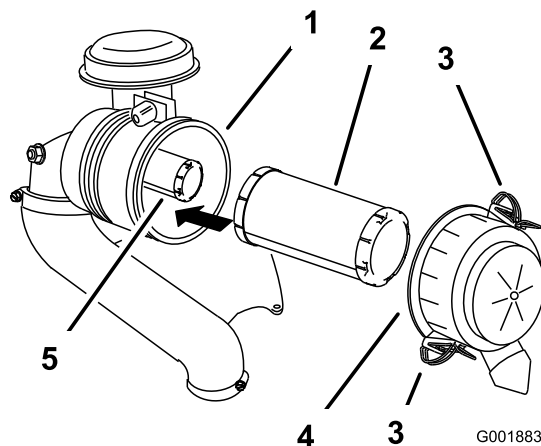

Figure 32
3. Release the latches on the air cleaner and pull the air-cleaner cover off the air-cleaner body (Figure 32).
5. Gently slide the primary filter out of the air-cleaner body (Figure 32).
2. If you are replacing the safety filter, carefully slide it into the filter body (Figure 32).
3. Carefully slide the primary filter over the safety filter (Figure 32).
4. Install the air-cleaner cover with the side indicated as **up** facing upward and secure the latches (Figure 32).